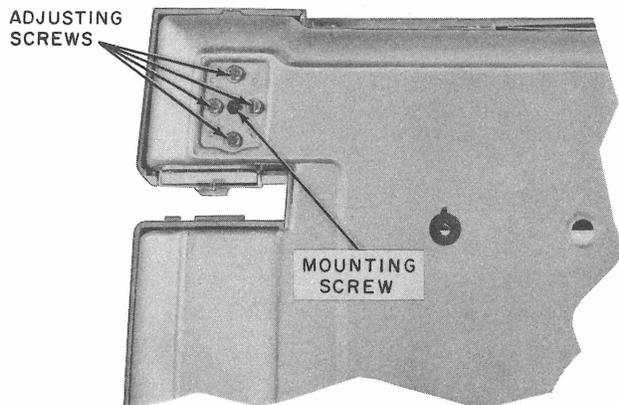

Fig. 4—33-Type TTY Data Station—Tape Reader Base
- (1) Perform 2.01 (1) through (8).
- (2) Perform 2.02 (1) through (8).
- (3) Remove the center locking screw from tape reader base (Fig. 4).